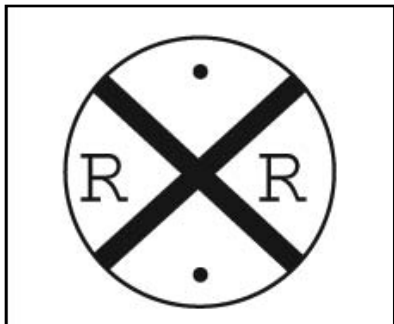

Figure 2.15
**Advance warning signs.** The round, black-on-yellow warning sign is placed ahead of a public railroad-highway crossing. The advance warning sign tells you to slow down, look and listen for the train, and be prepared to stop at the tracks if a train is coming. See Figure 2.15.